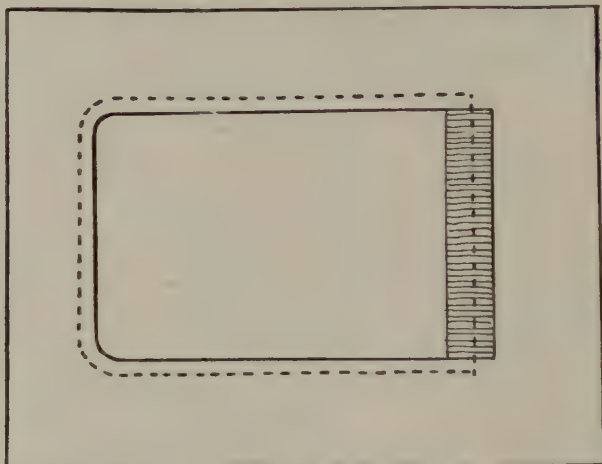

FIG. 237—DIAGRAM OF COVER BOARD LAYOUT, SOLID LINES INDICATE BOOK OUTLINE, DOTTED LINES ARE BOARD SIZE AND SHAPE
1. Lay your book *flat* on a piece of tough paper. Mark around the four edges carefully following the book outline exactly. (Fig. 237.)